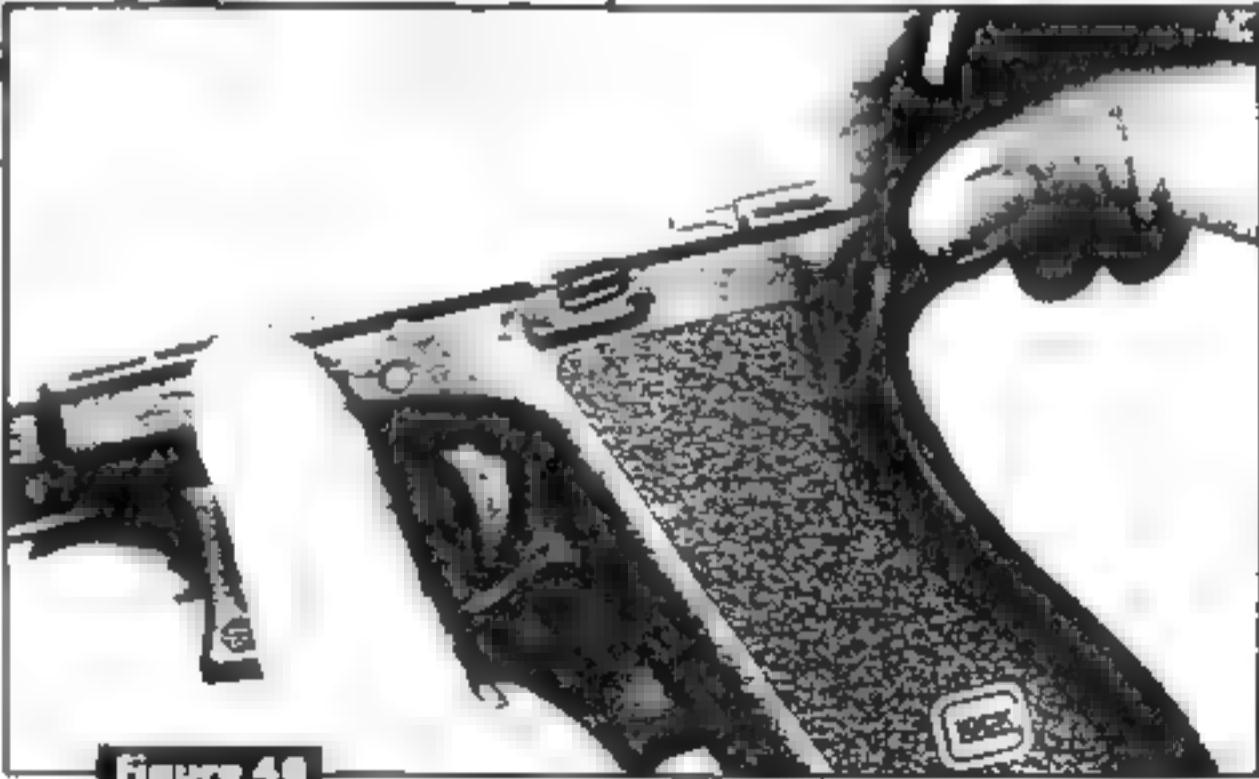

Figure 40
- Use a pin punch to push the trigger housing pin out of the frame (Figure 40).